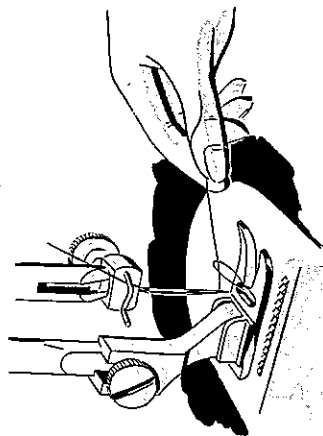

Fig. 8
c. Now, by drawing the upper thread by hand, the lower thread will be pulled up through the stitch hole of the needleplate, as shown in Fig. 8.